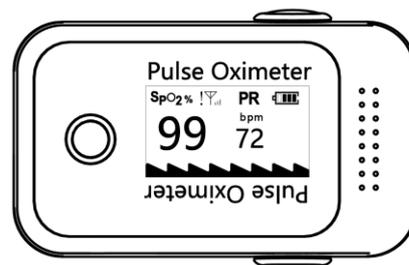

Figure 6
2. The device takes only a moment to take the reading. The SpO₂ value and PR value will be displayed on the OLED screen after the plethysmograph wave and measured values are stable, as shown in **Figure 6**.